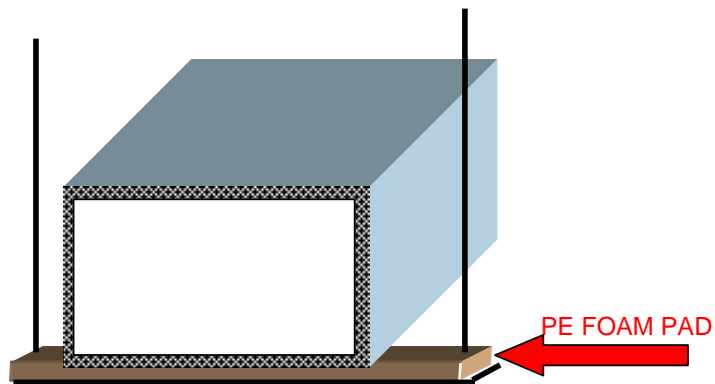

Fig 4
- ❑ Conventional hangers are suitable for the installation of Thermobreak. If the duct is insulated before it is installed, the hanger base must be lined with foam of the same thickness of Thermobreak to protect against compression. (Fig 4). Thermobreak can also be used in place of plain PE foam.